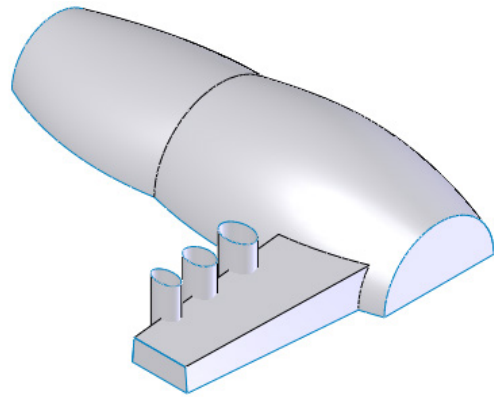

Figure 1-150 Resultant extruded surface
3. Invoke the **Surface-Extrude PropertyManager** and extrude the sketch up to a depth of 25 mm. The extruded surface is displayed, as shown in Figure 1-150.